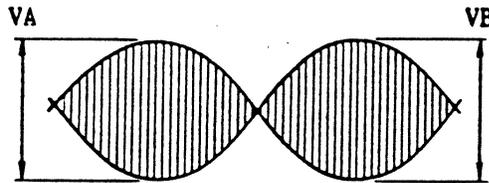

Fig. 416 Lobe Pattern for Alignment Inspection
- (2) Start the spindle motor and load the disk.
- (3) Shift the head to the head alignment track (for F-5002, track 16 and for F-5004, track 32).
- (4) Check if two lobe patterns (VA, VB levels need not coincide) as shown in Fig.416 can be monitored and measured.
for F-5002 and four tracks for F-5004, and set the track position so that the waveform obtained is as close as possible to that in Fig.416.
- (c) Insert the alignment disk. It is assumed, however, that track alignment was correctly performed in item 4-4-10.
- (d) Shift the head to a track where a lobe pattern like that shown in Fig.416 can be observed.